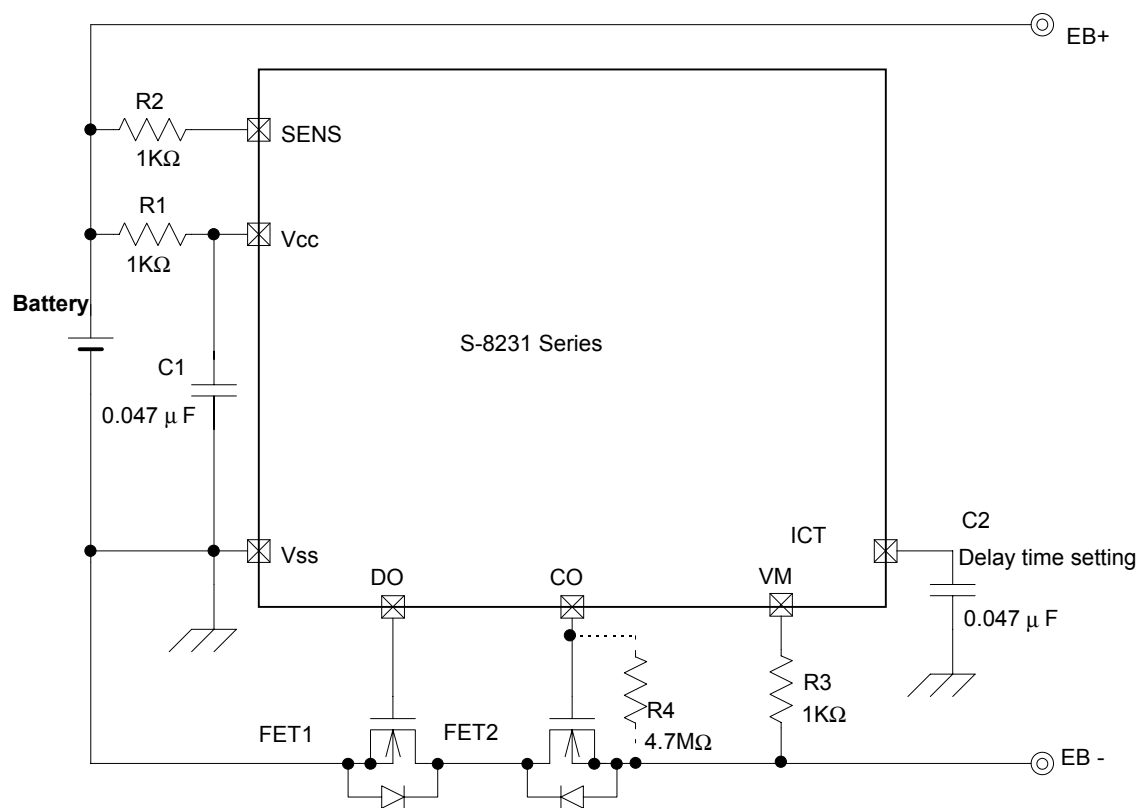

Figure 5 Circuit
4.7M Ω resistor is required between CO terminal and EB- terminal. Please refer figure 5.